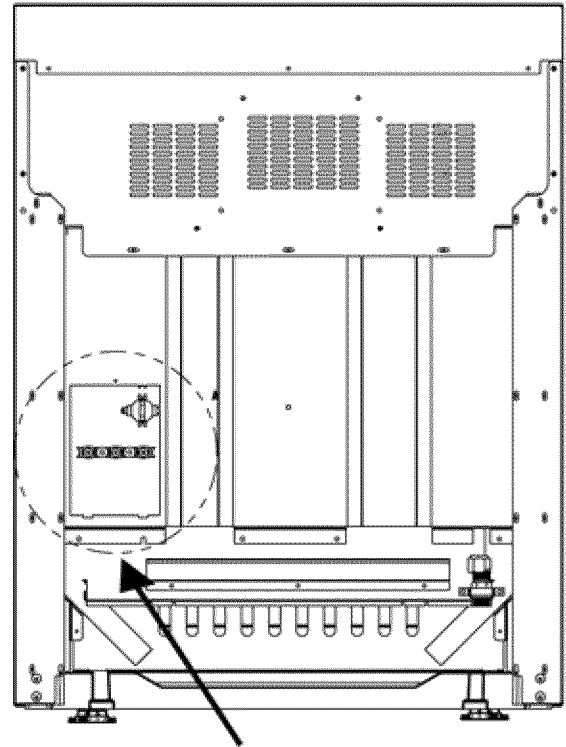
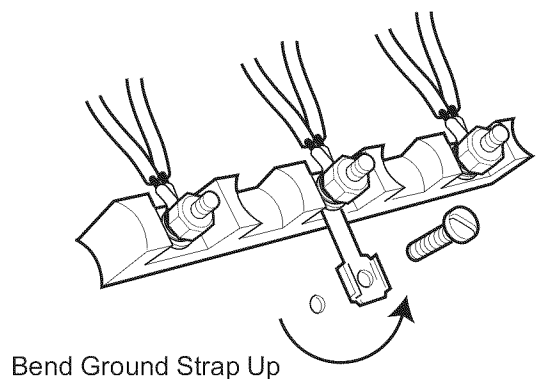

Figure 10: Location of Junction Box on 30" and 36" Ranges
Figure 14: Ground Strap
- **PERMANENT CONNECTION (HARD WIRING)** — Units may be hard wired to the power supply. The installer must provide approved flexible aluminum conduit, 3/4" trade size, maximum 6 feet long. Locate the junction box on the rear of the unit and remove cover. Refer to Figure 10. Remove the ground strap retaining screw and bend the ground strap up. Refer to Figure 14. The conduit must be installed to the junction box using an approved conduit connector.
2. Remove ground strap screw and bend the strap up as shown in Figure 14.